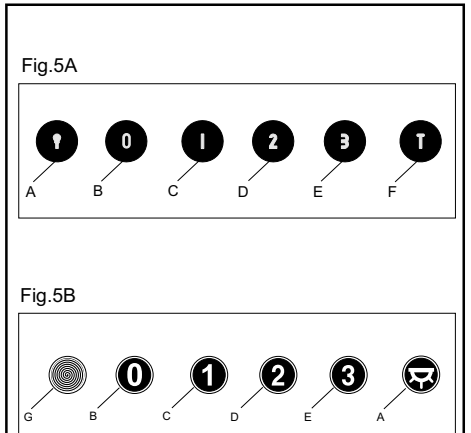

Fig.5A
• **COMANDS:** (Fig.5A) LUMINOUS_(Fig.5B) MECHANICAL the key symbols are explained below: